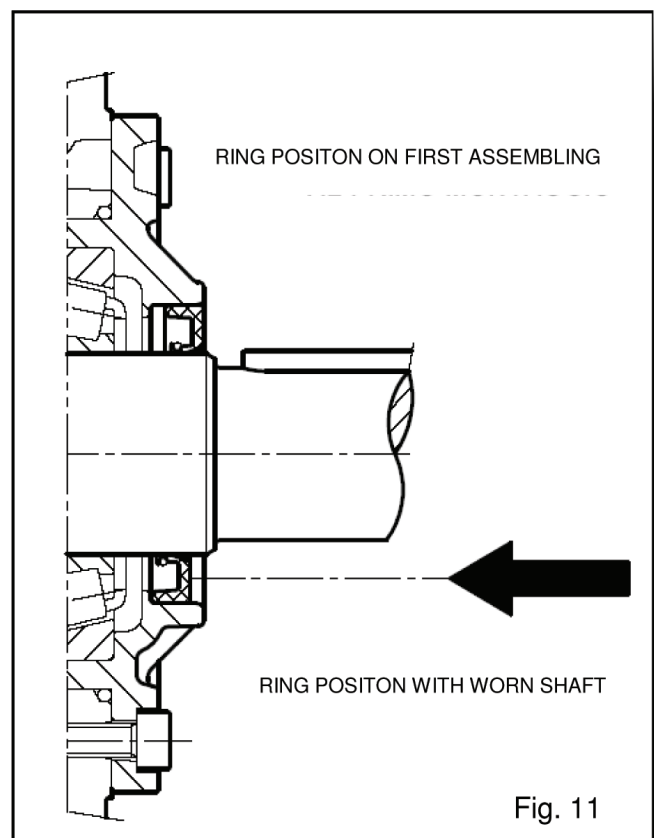

Fig. 11
C) Before reassembling the side covers, check the seal lips for wear. If they need replacing, fit the new ring following the indications in Fig. 11.
Note: Should the shaft show diameter wear where there is the seal lip, it is possible to avoid grinding by fitting the seal further as indicated in Fig. 11. Before installing the cover (sight glass side) check that the shim rings have been placed. To help the covers fit on the crankcase, you can use 3 screws M6 x 40, and then finish screwing them with the original bolts M16 x 16.